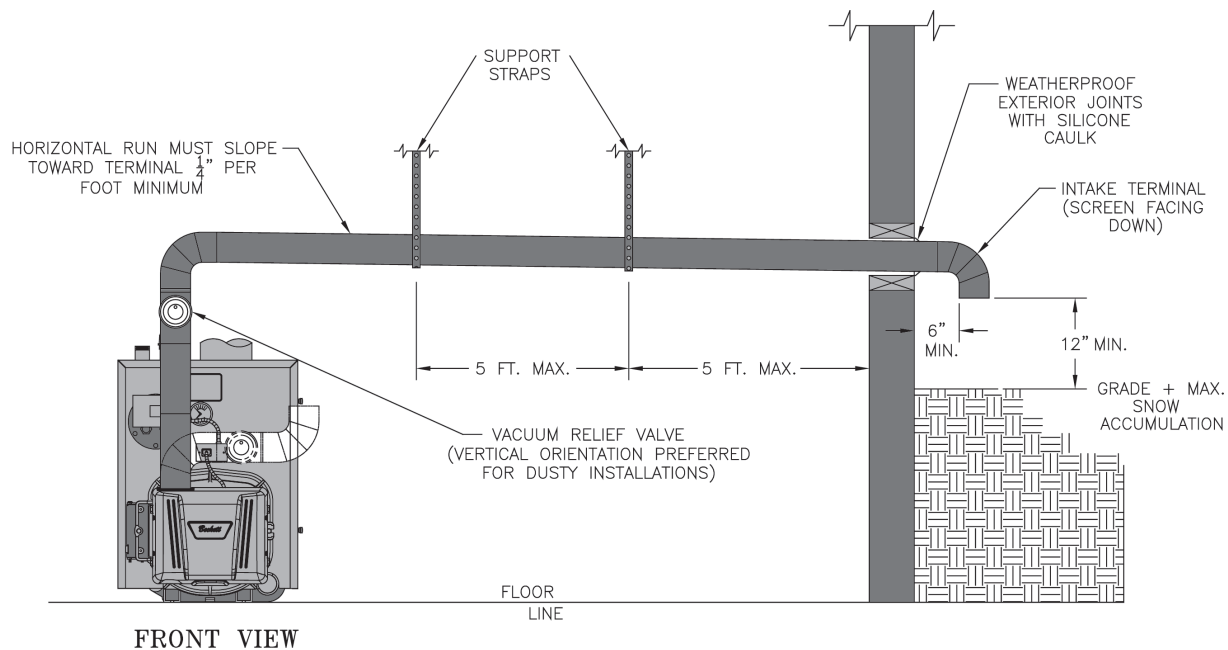

Figure 19: Optional Air Intake Piping Installation - Only Available with Beckett Burner
INSTALLATION - Outdoor air for combustion may be provided with an optional U.S. Boiler Company V8H™ Fresh Air Accessory Kit (**ONLY AVAILABLE ON BECKETT BURNERS**, with plastic cover application, P/N 102119-01), refer to Figure 19. Refer to Fresh Air Accessory Kit Instructions for installation and air intake piping details.
2. After determining location, cut a hole in the wall to accept 4 inch air intake pipe. See Figure 19.
4. Mount the Vacuum Relief Valve Tee Assembly (P/N 8116268 included with Kit) or 90° elbow into the burner inlet ring. See Figure 19.
- a. Secure with at least three (3) sheet metal screws evenly spaced around the burner inlet ring.
5. Install remainder of air intake, securing each joint with at least three (3) sheet metal screws evenly spaced.
6. Install air intake terminal. See Figure 19.